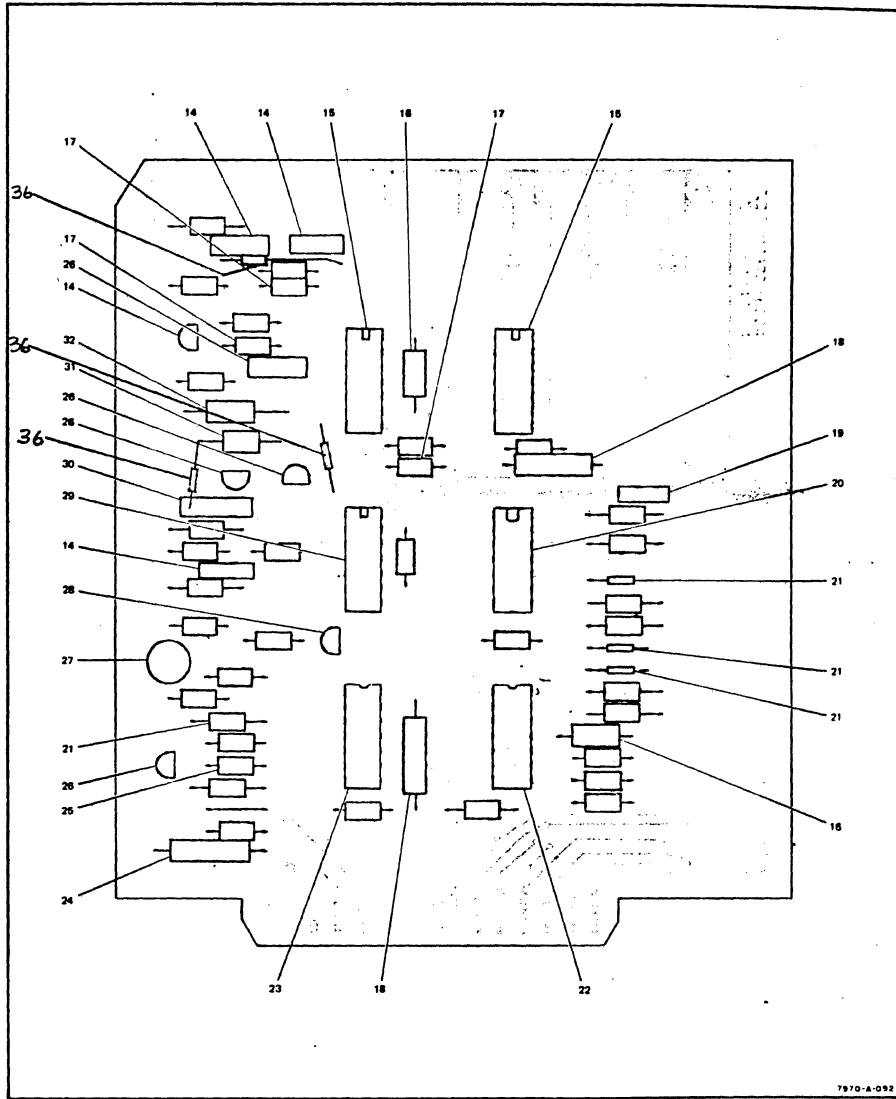

Figure 1.
- 3 Part 4, page 3-9 and 3-10, figure 3-4. Add parts and index numbers (#36) as shown in figure 1.